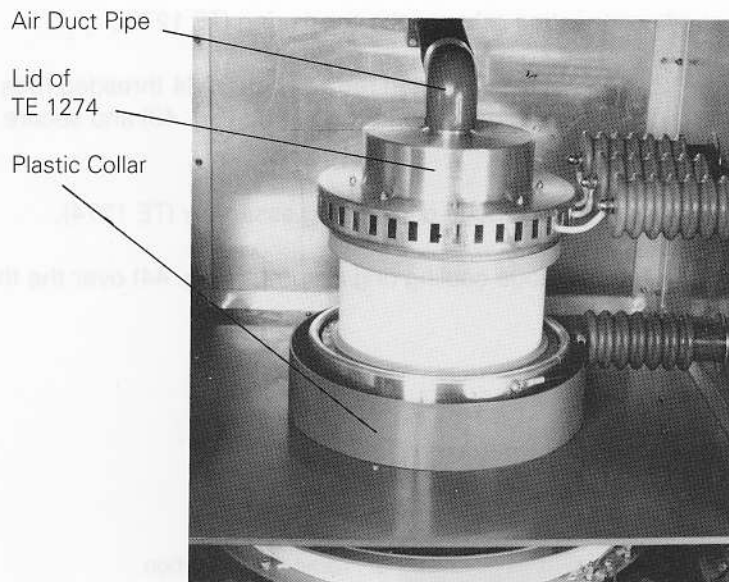

Fig. 45. Final equipping of HV Connection Unit (TE 1263)
- (a) Unpack the HV connection unit (TE 1263) and remove the air duct pipe and plastic collar (see Fig. 45).
- (m) Fit the lid of the cathode cooling ring assembly (TE 1274) over the 8 distance tubes (Fig. 45) and secure using the 8 cap nuts and washers from package 12 (paragraph 1.1.(b)).
- (n) Fit the air duct pipe (Fig. 45) to the lid of the cathode cooling ring assembly (TE 1274) and to the side-wall inlet of the HV connection unit (TE 1263).
- (p) Fit the plastic collar (Fig. 45) around the accelerating anode ring, with the gap pointing towards the anode socket.